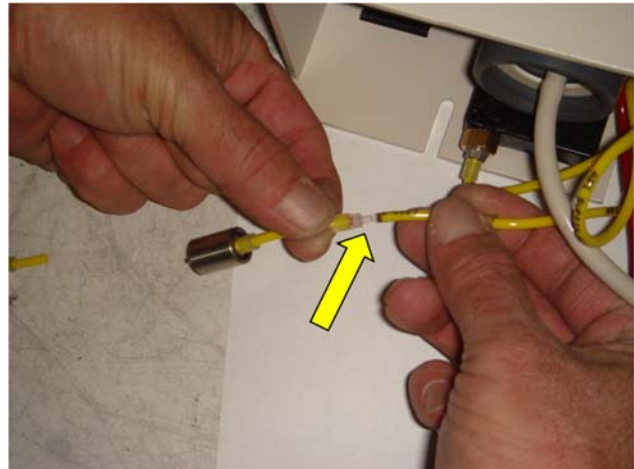

Fig. 5
7. Attach supplied assembly by sliding tubing sleeve over cut end of the yellow tubing; then insert onto the connector of the plastic check valve. (Fig. 5)